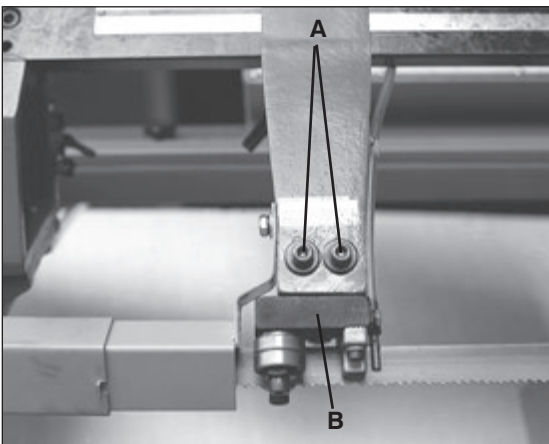

Fig. 8
2. Loosen two hex socket cap screws (A-Fig.8).
3. Move guide seat (B - Fig.8) up or down until a clearance of 0.003" to 0.005" between back of blade and thrust roller is obtained.
4. Tighten two hex socket cap screws (A - Fig.8).